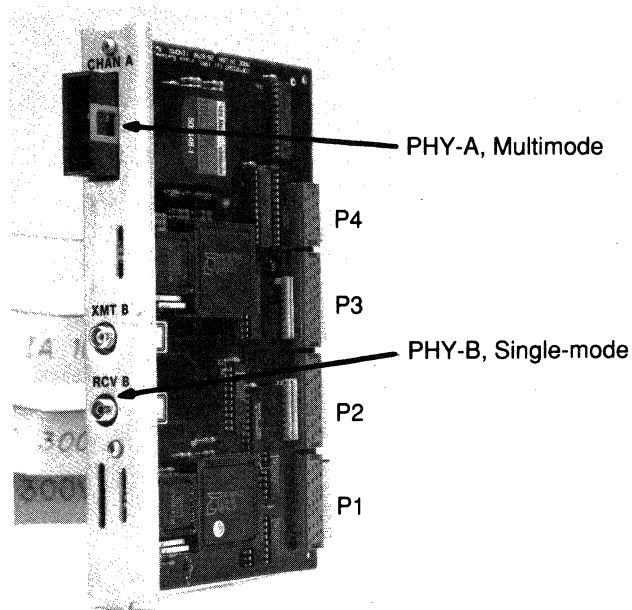

Figure 4-16 FDDI Appliance, Multimode/Single Mode
- PHY-A multimode, PHY-B single mode (APP-LMS)—see Figure 4-16.